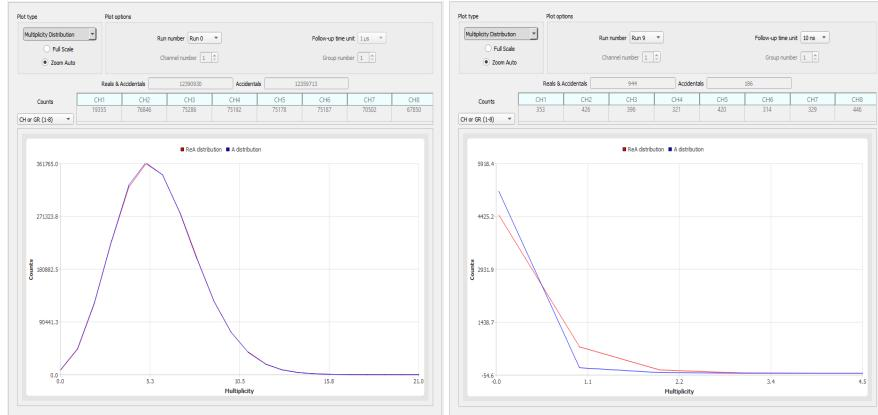

Fig. 2.14: Two different examples of multiplicity distributions. The R+A distribution is shown in red, the A distribution is superimposed on the same plot.
- **Multiplicity Distribution:** in this case the distributions of the multiplicity of events detected in the R+A and the A gates are shown in different colors. Every bin of the histogram corresponds to an increasing multiplicity value. Two plot examples are shown in **Fig.2.14**.